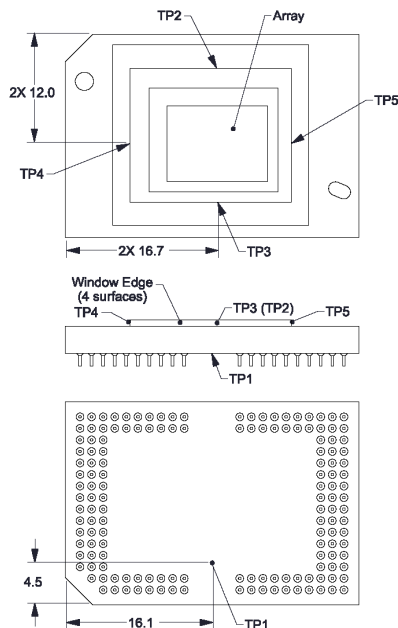

Figure 7-4. Thermal Test Point Location
Achieving optimal DMD performance requires proper management of the maximum DMD case temperature, the maximum temperature of any individual micromirror in the active array, the maximum temperature of the window aperture, and the temperature gradient between the case temperature and the predicted micromirror array temperature (see Figure 7-4).
The DMD is designed to conduct absorbed and dissipated heat to the back of the Series 450 package where it can be removed by an appropriate heat sink. The heat sink and cooling system must be capable of maintaining the package within the specified operational temperatures, refer to Figure 7-4. The total heat load on the DMD is typically driven by the incident light absorbed by the active area; although other contributions include light energy absorbed by the window aperture and electrical power dissipation of the array.
The temperature of the DMD case can be measured directly. For consistency, Thermal Test Point locations TP1 – TP5 are defined, as shown in Figure 7-4.
Micromirror array temperature cannot be measured directly; therefore it must be computed analytically from measurement points (Figure 7-4), the package thermal resistance, the electrical power, and the illumination heat load. The relationship between micromirror array temperature and the case temperature are provided by Equation 1 and Equation 2:
- T_{Ceramic} = Ceramic temperature (°C) (TC2 Location Figure 7-4)